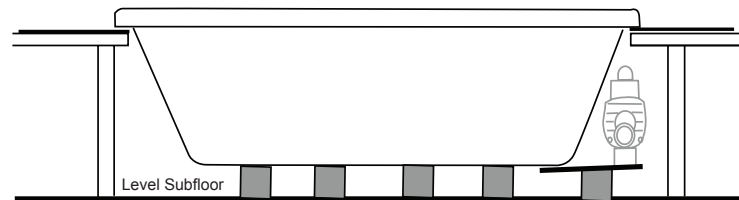

Figure 11
- 11** Remove scrap lumber and lower the bathtub fully into the opening (Figures 11 and 12).